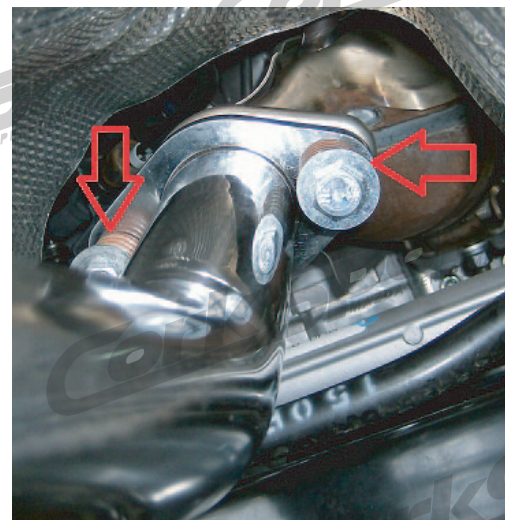

Figure 2B
B) Install the racepipe (or stock exhaust section if you cut your exhaust in the previous step) by placing the flanged end with the 2-bolt flange up to the header. Then install the stock flange springs on to the included two (2) 70mm bolts and washers and hand thread them into the header. The hardware stackup is shown by the **red arrows** in **Figure 2B**.